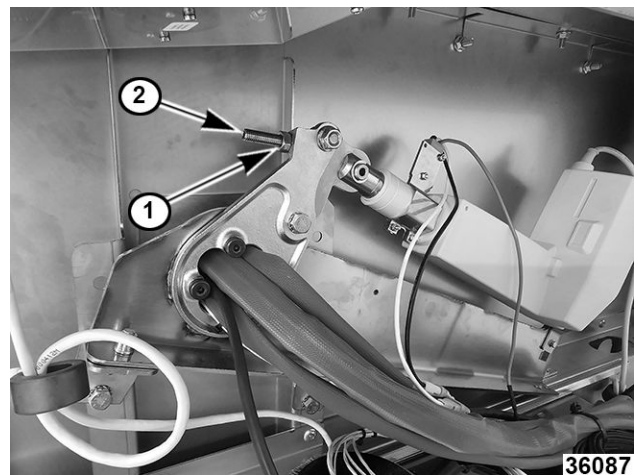

Fig. 70
5. Loosen lock nut (1, Fig. 70) and adjustment screw (2, Fig. 70) on adjustment arm on ram.